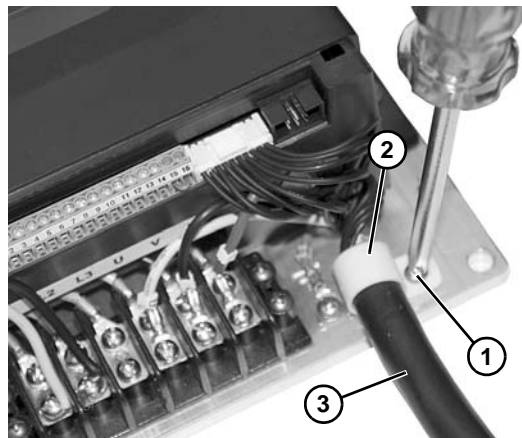

Figure 35
2. Remove screw (**Figure 35, item 1**) and clamp (**Figure 35, item 2**) securing motor wiring (**Figure 35, item 3**) to controller.